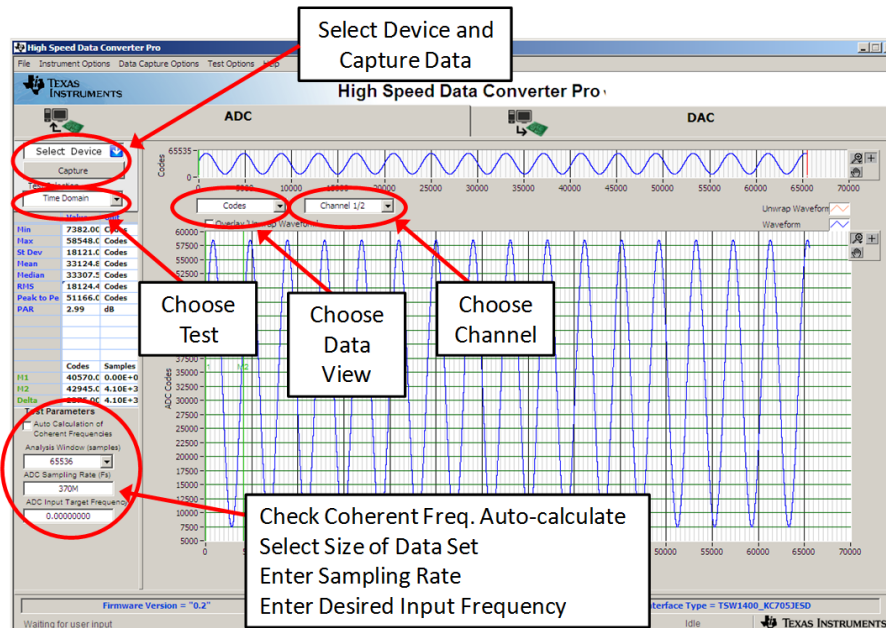

Figure 4. HSDC Pro GUI Main Panel
1. Open High Speed Data Converter Pro by going to *Start Menu* → *All Programs* → *Texas Instruments* → *High Speed Data Converter Pro*. The GUI main page looks as shown in Figure 4.